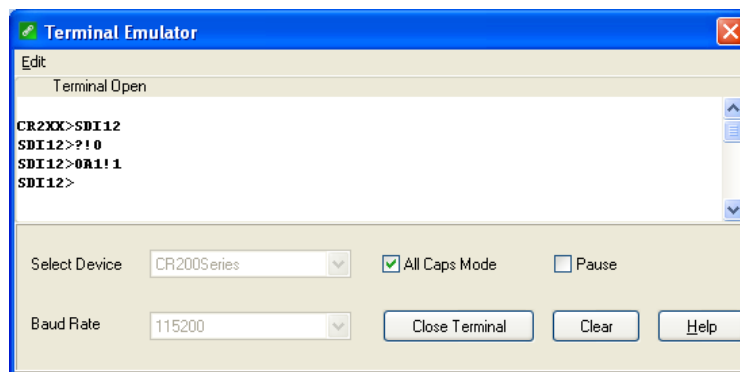

FIGURE D-1. CR200(X) example of using the SDI-12 transparent mode to change the SDI-12 address from 0 to 1.
D.2.1 CR200(X) Series Datalogger Example
6. To change the SDI-12 address, key in *aAb!<enter>*, where *a* is the current address from the above step and *b* is the new address (see FIGURE D-1). The sensor will change its address and the datalogger will respond with the new address. To exit SDI-12 transparent mode, select the **Close Terminal** button.